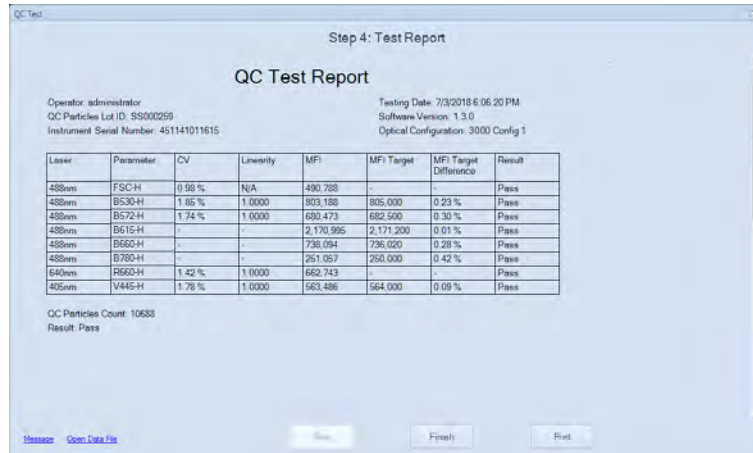

Figure 2-13 QC Test Report
- 12 Ensure the result shows *Pass* for all the channels. Click *Finish* to close the window and complete the optical configuration modification (Figure 2-13).